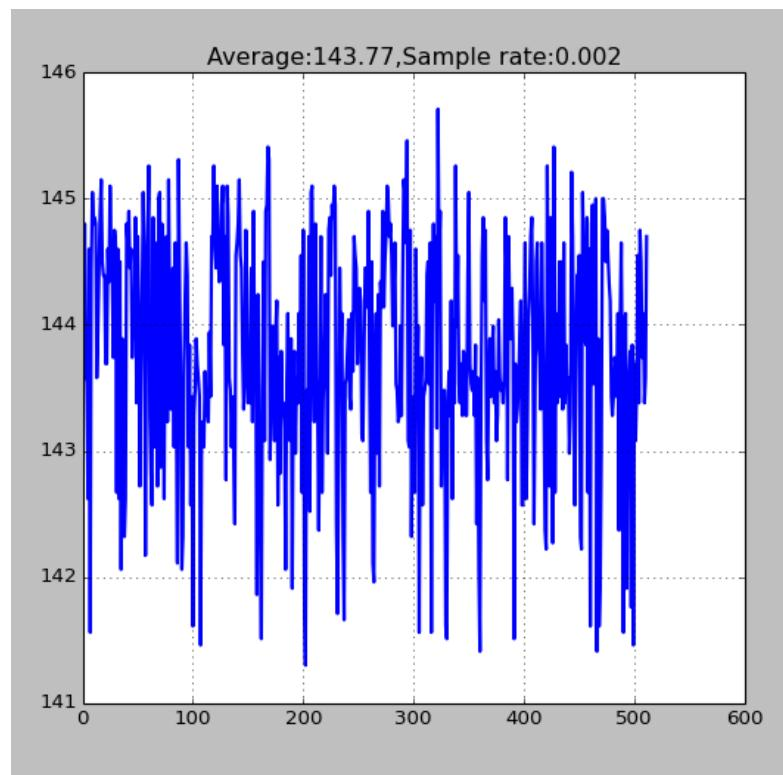

Figure 4-7. Current Measurement of Packet Send Operation Power Consumption Test #2
- Execute the Python script to run the power consumption test on ESP-Launcher in the 802.11g mode, OFDM 54 Mbps, Pout = +15 dB. The average power consumption is 143.77 mA, as Figure 4-7 shows: